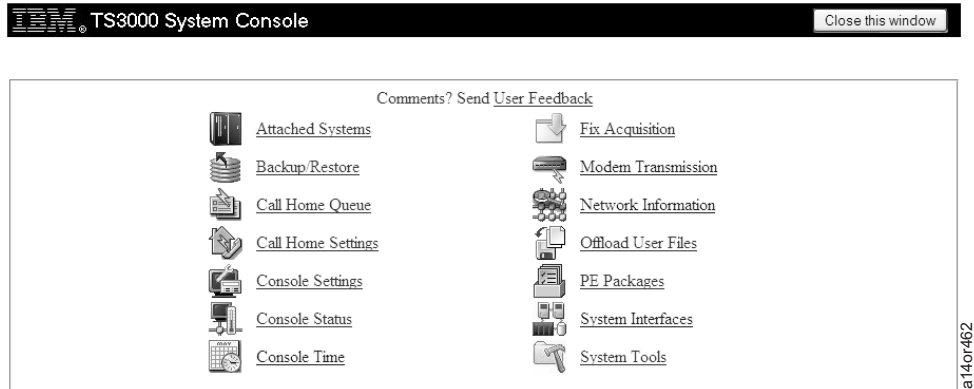

Figure 3-93. Main Configuration Screen
2. From the Main Menu, select **System Console Actions --> Console Configuration Utility**. You see the Main Configuration screen shown in Figure 3-93 on page 3-74.